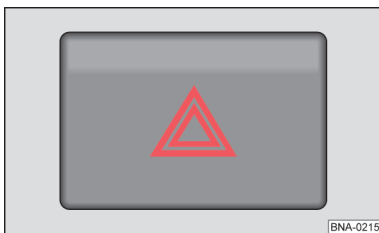

Fig. 69
- › Switch on the hazard warning light system with the button  » fig. 69.